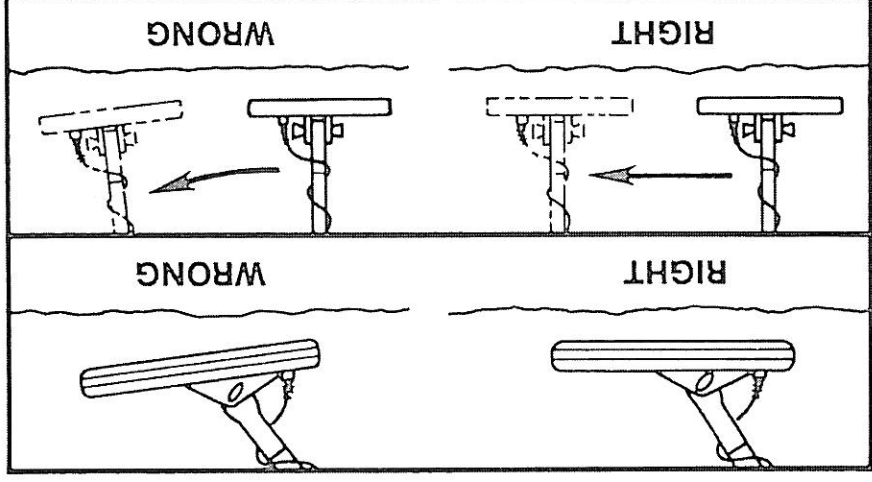

Fig. 5 "Sweeping" the Search Coil. Keep the search coil parallel and close to the ground at all times.
4. Keep the coil parallel to, and as close to the ground as practical (See Fig. 5). This is important for maximum coverage and depth.